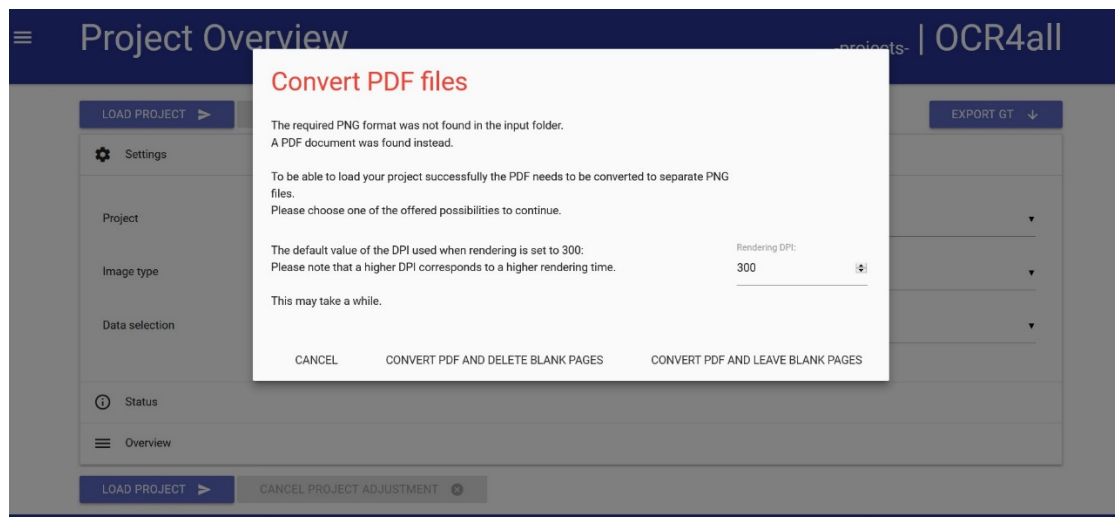

fig. 3. Data conversion request (i.g. PDF in 'input' folder).
- Following this initial set up, click on 'load project' in order for the book in question to be uploaded to the OCR4all platform. Seeing as OCR4all only accepts certain file designations and formats (i.e. 0001.png etc.), a data conversion might be requested which can be directly carried out in OCR4all (fig. 3).